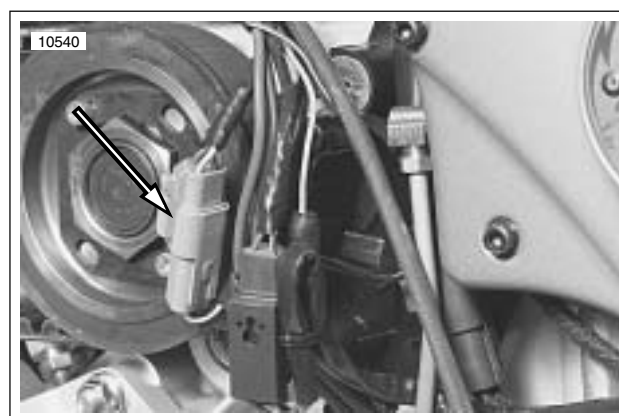

Figure 7-66. Vehicle Speed Sensor Connector [65]
1. See Figure 7-66. Locate the 3-place vehicle speed sensor connector [65] under the sprocket cover. See 2.30 SPROCKET COVER.
1. See Figure 7-66. Disconnect vehicle speed sensor connector [65]. Attach speedometer tester connector to vehicle speed sensor connector.